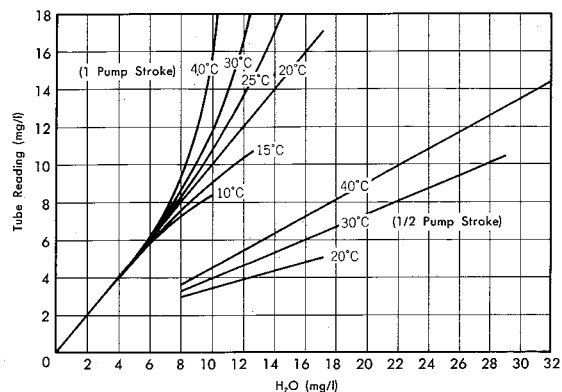

Fig. 1 Temperature Correction Chart
※ Refer to Fig. 1 (1/2 pump stroke —50ml)
7. If the stain exceeds the highest calibration mark (18 mg/l) with 1 pump stroke (100 ml), use 1/2 pump stroke (50 ml). Obtain true concentration from the Temperature Correction Chart (Fig. 1).
Calibration of the Gastec detector tube No. 6 is based on a tube temperature of 20°C (68°F) and normal atmospheric pressure. Tube temperature must be kept higher than the dew point to avoid condensation of water in the tube, which results in an erroneously low reading. For tube temperature other than 20°C, tube reading must be corrected according to the Temperature Correction Chart (Fig 1 & 2). For 2 pump strokes (200 ml), however, temperature correction is unnecessary. Tube reading is proportional to absolute pressure.